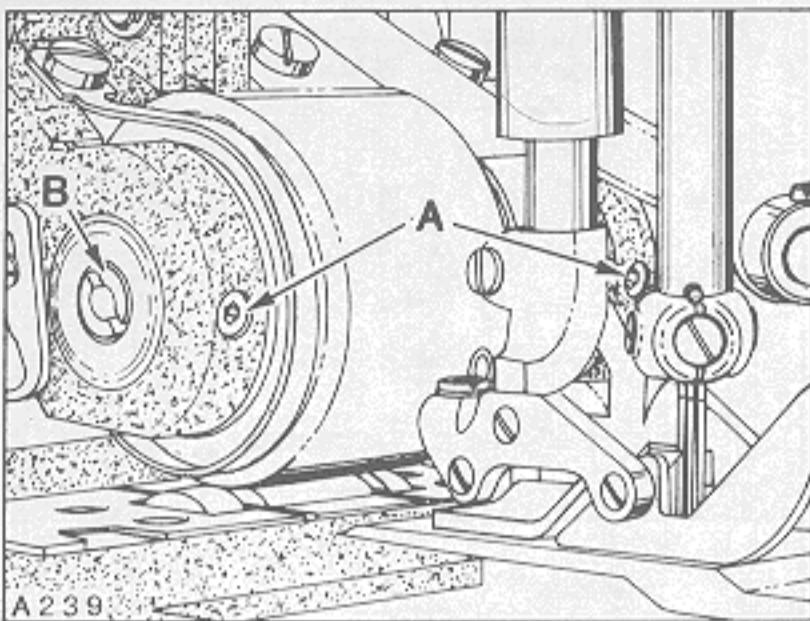

Fig.33
belt guard. It may be necessary to reposition sprockets (B and C) slightly (left and right). Pull down firmly on puller assembly, making sure puller roller is setting evenly on lower roller and tighten two screws (A) securely. The roller puller belt which is located under hinged belt guard (D) should have $1/8$ inch (3.2mm) deflection when pressing firmly between drive shaft sprocket and drive sprocket. If adjustment is required loosen two allen screws (A, Fig. 33) and turn eccentric shaft (B) slightly to apply tension on belt. Turning shaft clockwise tightens belt, counterclockwise acts the reverse. CAUTION: Care must be taken not to disturb eccentric shaft (left or right). Tighten two screws (A) securely.